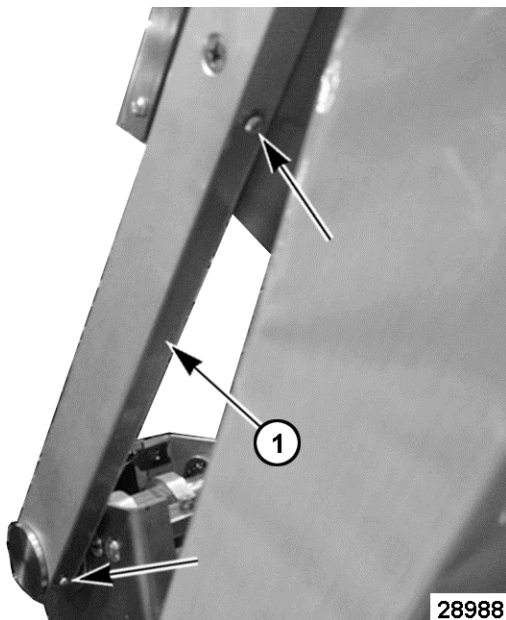

Fig. 18
3. Fully raise platen to access the left arm wireway cover (1, Fig. 18) then remove the cover.